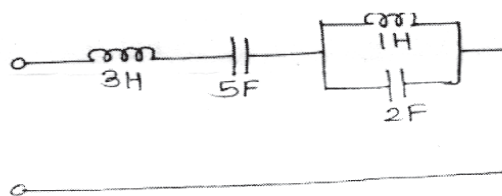

Fig. 12
- b) Determine Driving Point Impedance function $Z_{11}(s)$ and Driving Point Admittance function $Y_{11}(s)$ for the network in Fig. 12. [6]